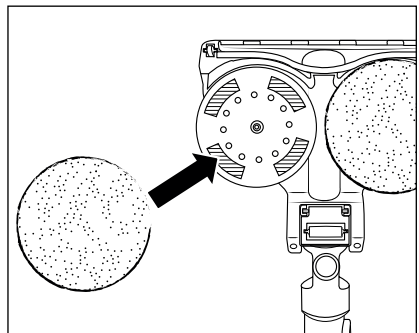

Fig. 18
- ◆ To fit a mop pad **34** to the mop attachment **31**, place it centrally on one of the two rotating plates on the underside of the mop attachment **31** (see Fig. 18). Then press it firmly onto the hook and loop strips of the rotating plate.